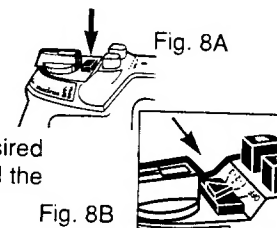

Fig. 8B
- Lower the Steam/Dry Button* to the dry position (Fig. 8A) or slide the Adjustable Steam Control* to OFF position (Fig. 8B).